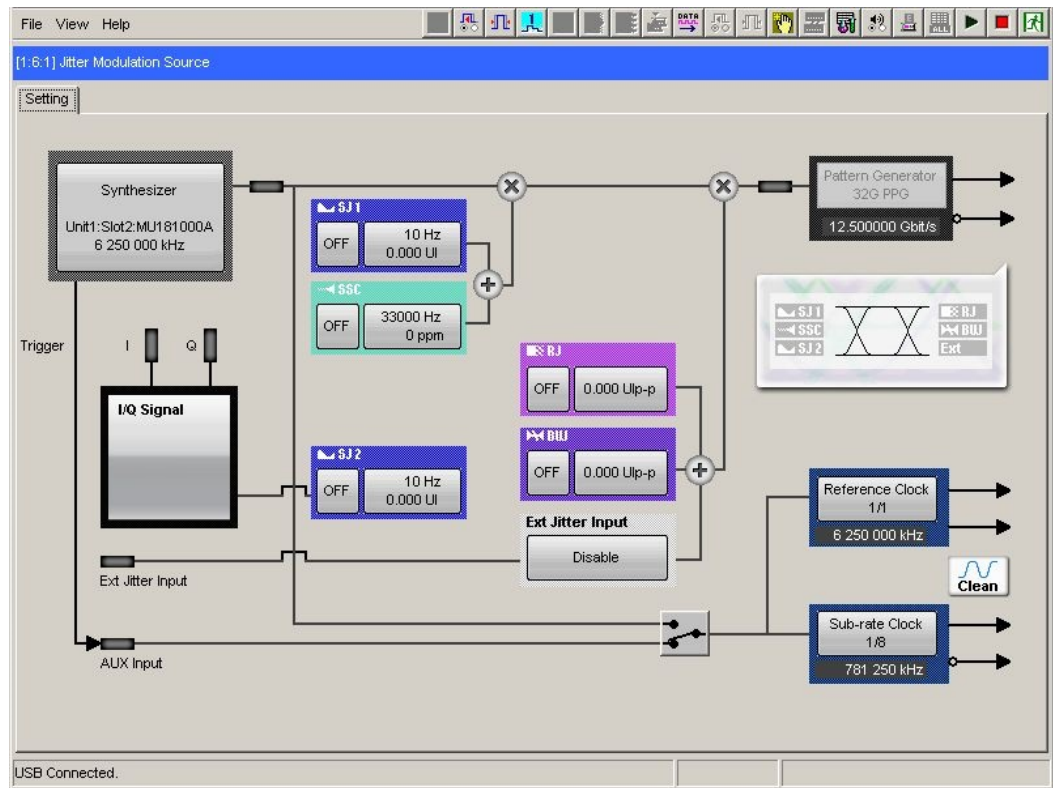

Figure B.5-3 Setting MU181500B's AUX and Reference Clock
- 6, 7. Use coaxial cables (applicable part, 0.8 m, APC 3.5 mm connector) to connect MU181500B's **Reference Clock Output** connectors respectively with the **Doubler Input** connector of each MP1825B No.1 and 2. Then, connect MP1825B's **Doubler Output** and **Clock Input** connectors with the semi-rigid coaxial cable that comes with MP1825B. After that switch MU181500B's AUX clock input signal to **AUX Input** and set the Reference Clock to **1/1**. (Figure B.5-3)
- 6, 7. Use coaxial cables (applicable part, 0.8 m, APC 3.5 mm connector) to connect MU181500B's **Reference Clock Output** connectors respectively with the **Doubler Input** connector of each MP1825B No.1 and 2. Then, connect MP1825B's **Doubler Output** and **Clock Input** connectors with the semi-rigid coaxial cable that comes with MP1825B. After that switch MU181500B's AUX clock input signal to **AUX Input** and set the Reference Clock to 1/1. (Figure B.5-3)